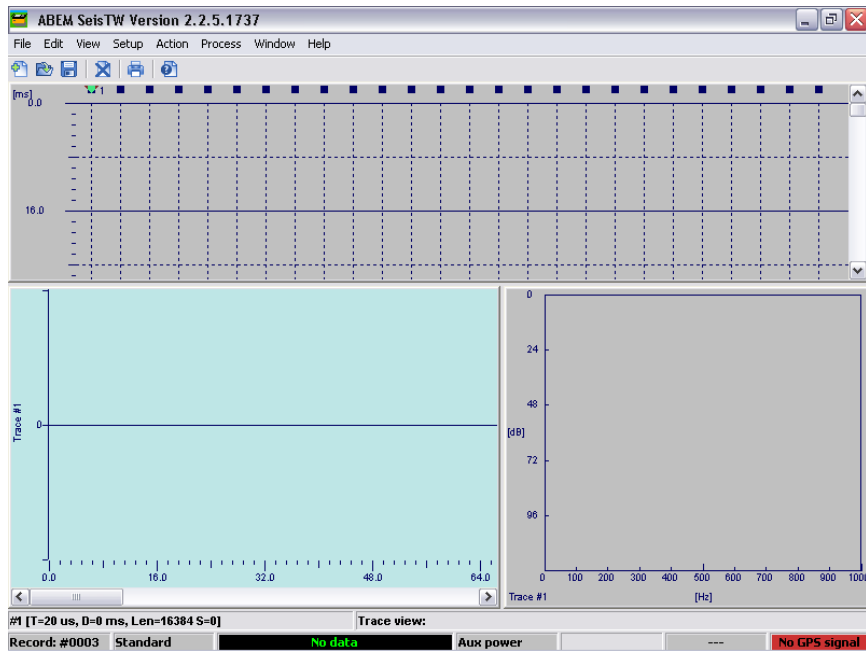
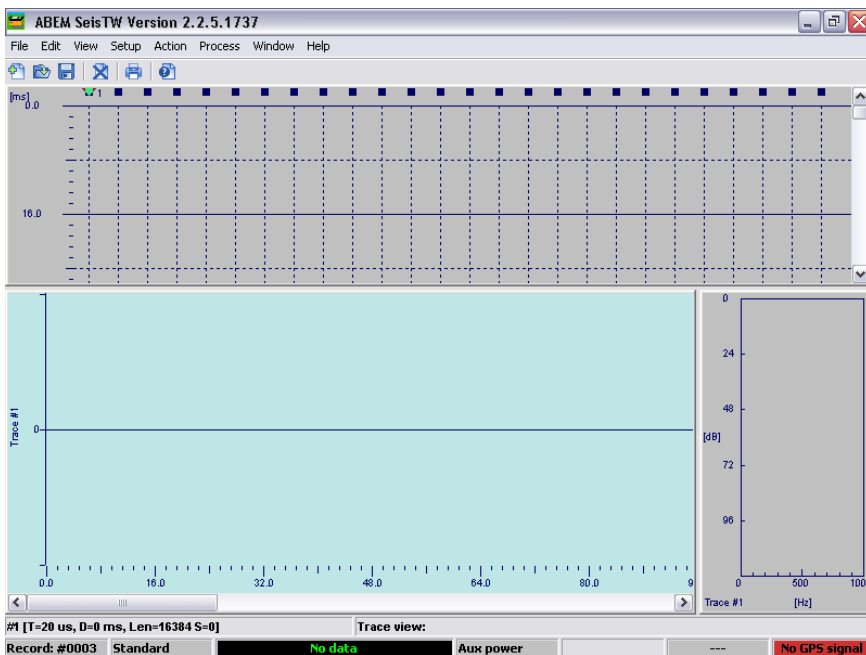

Figure 9 SeisTW with the horizontal separator moved upwards
Figure 10 SeisTW with the vertical separator moved to the right
- Changing the sizes of the views. That is, moving the separators between the views (Figure 9 and Figure 10)